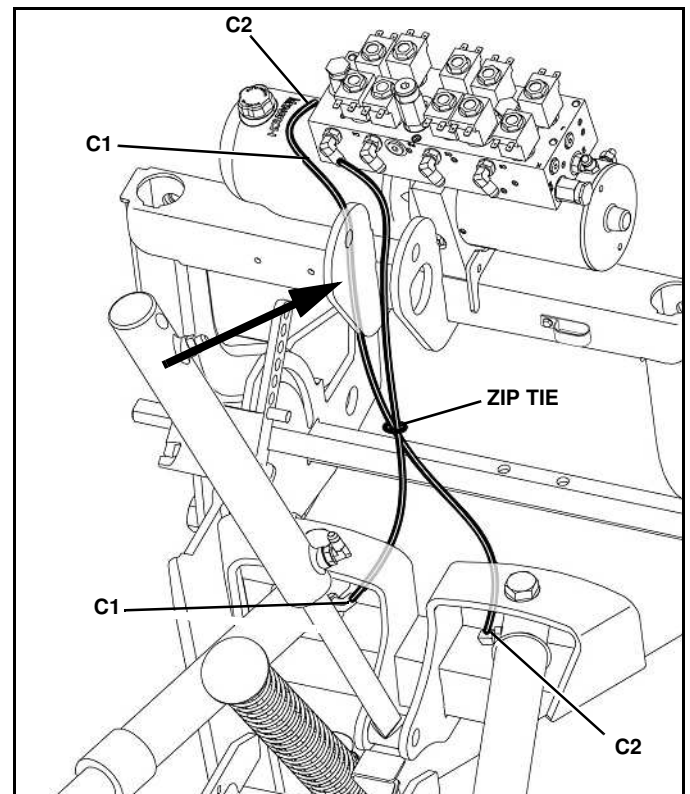

Figure 1-17
20. Route and connect hoses from C1 and C2 on the valve housing to the swing cylinders as shown. (See Figure 1-17).
21. Flip lift cylinder up and secure to the light bar frame with a 3/4" clevis pin (p/n 98100441) and cotter pin (p/n 98009085). (See Figure 1-17).